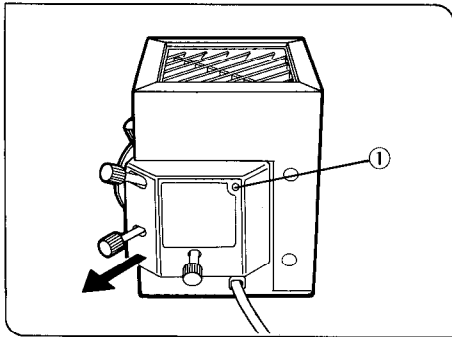

Fig. 20
(Figs. 20, 21)
1. Remove the socket clamping screw ① using the Allen screwdriver provided with the microscope frame. (Fig. 20)
4. Tighten the socket clamping screw (① in Fig. 20) using the Allen screwdriver.